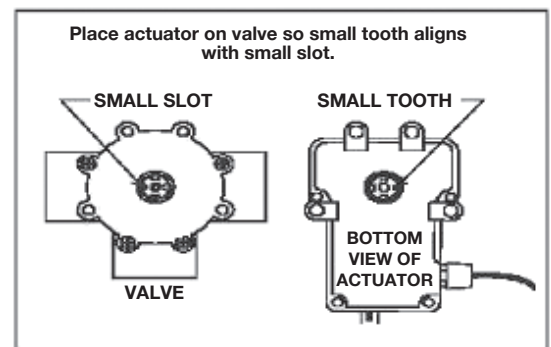

Figure 2. Actuator Mounting
3. Turn the actuator over and observe the teeth as shown in Figure 2.
4. Place the actuator over the valve shaft so the small tooth engages with the small slot in the valve shaft. See Figure 2.